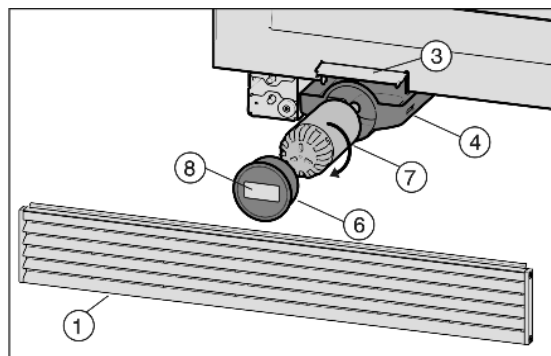

Fig. 74
- ▶ If necessary, remove ventilation grille Fig. 74 (1).
- ▶ Remove the filter cover Fig. 74 (6).
- ▶ Insert water filter Fig. 74 (7) and turn it approximately 100° clockwise as far as it will go.
- ▶ Insert the drawer Fig. 74 (4).
- ▶ Place the cover Fig. 74 (6) on the filter.
- ▶ Write the date of the next filter replacement on the label Fig. 74 (8) supplied and affix it to the filter cover Fig. 74 (6).
- ▶ Fit ventilation grille Fig. 74 (1).